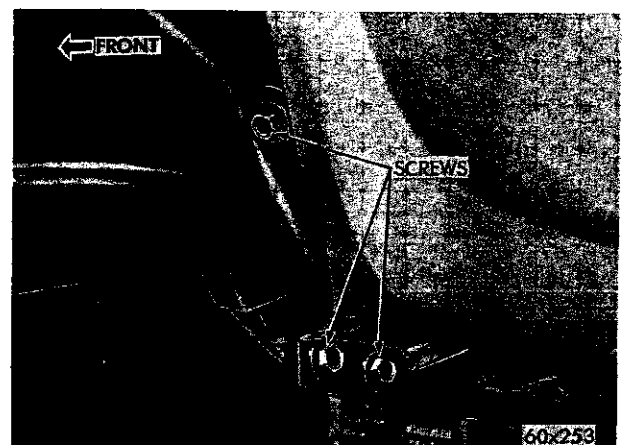
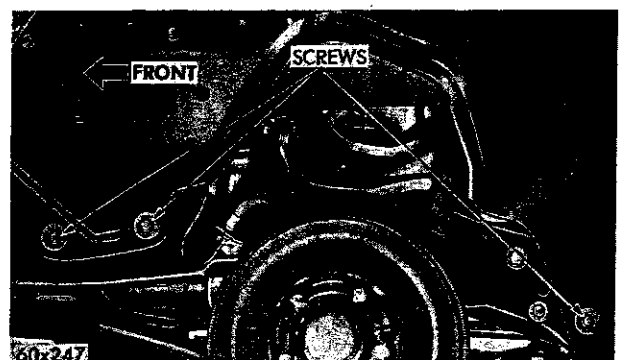

Fig. 7—Splash Shield to Body Frame Mounting
Fig. 8—Splash Shield to Stub Frame Mounting
- (7) Remove the splash shield to body frame mounting bolts (Fig. 7) and the splash shield to stub frame mounting bolts (Fig. 8).
- (8) Remove the fender to body sill bolts (two each side), (Fig. 7) and the fender to body post bolts.